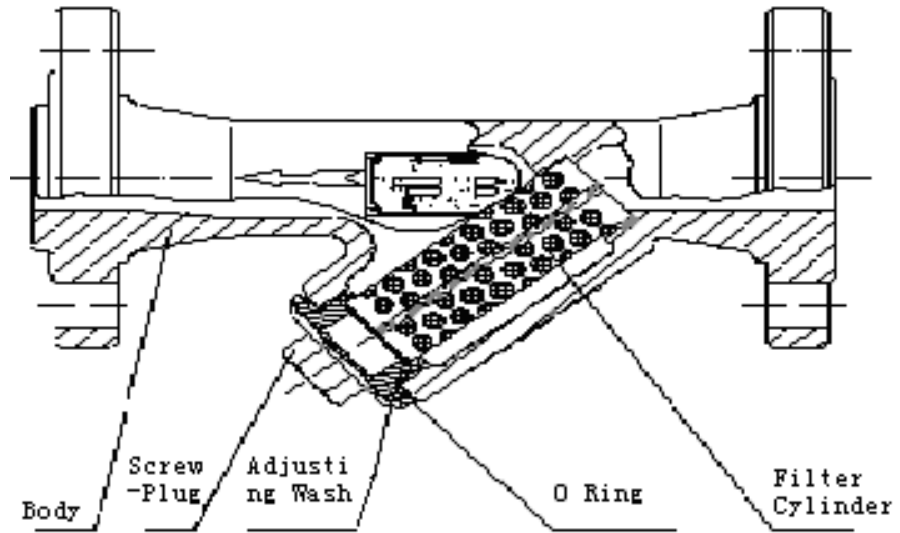

Figure 1a Tilting-Screw- Quick-Dismounting- Filter
(1) Tilting-Screw- Quick-Dismounting- Filter: fastening and sealing with Hex-Bolt in structure. Please see Figure 1a below .